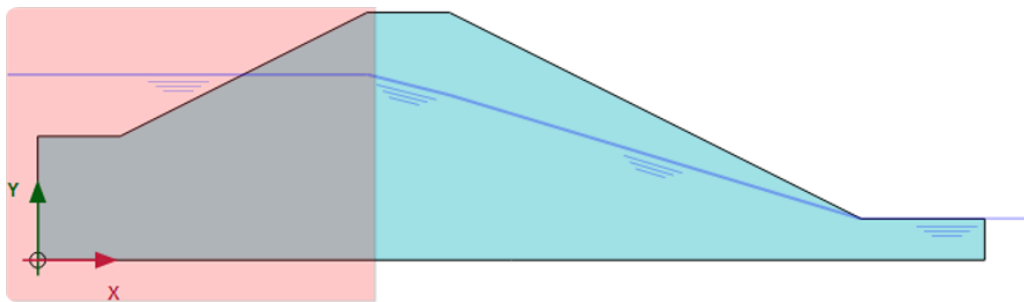

Figure 12-6: Selected hydraulic boundaries
- 9 Select the hydraulic boundaries as shown in Figure 12-6 \(p. 199\).